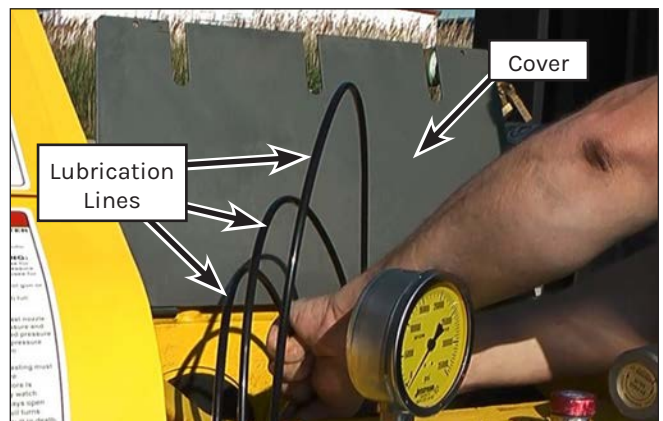

Figure 59: Disconnecting Lubrication Lines.
5. Open the rod box cover and disconnect the lubrication lines from the stuffing box fittings (Figure 59).